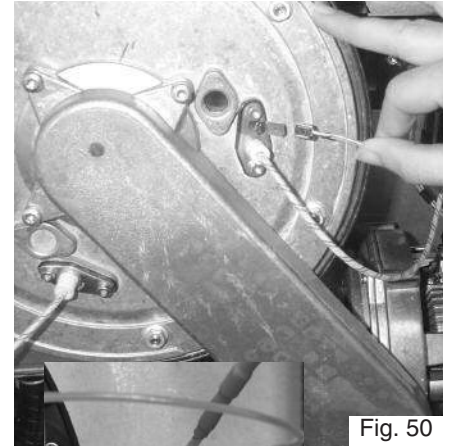
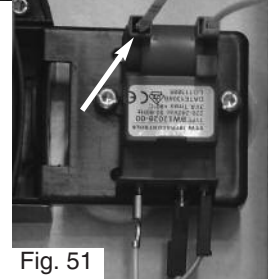

Fig. 50
Fig. 51
5. Remove the earth cable from the ignition electrode (Fig. 50), and remove the ignition electrode cable from the ignitor (Fig. 51)